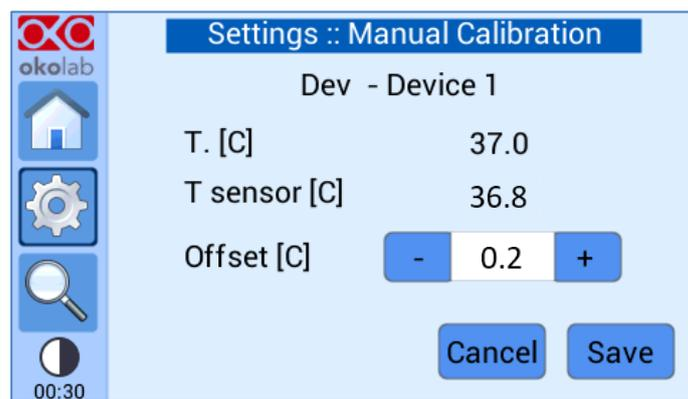

Figure 40. Manual Calibration. How to introduce the offset value
- 3 Insert the offset value clicking on + or - on the *Offset* tab as shown in Figure 40 to adjust the Device offset value and press on *Save*.
Tip ► Okolab recommends starting with an offset value corresponding to the difference between the set point temperature and the actual temperature measured by the T Sensor. In Figure 40, the desired temperature is 37.0 °C while the sensor reading states 36.8 °C, hence, in this case the offset to be applied is 0.2 °C.